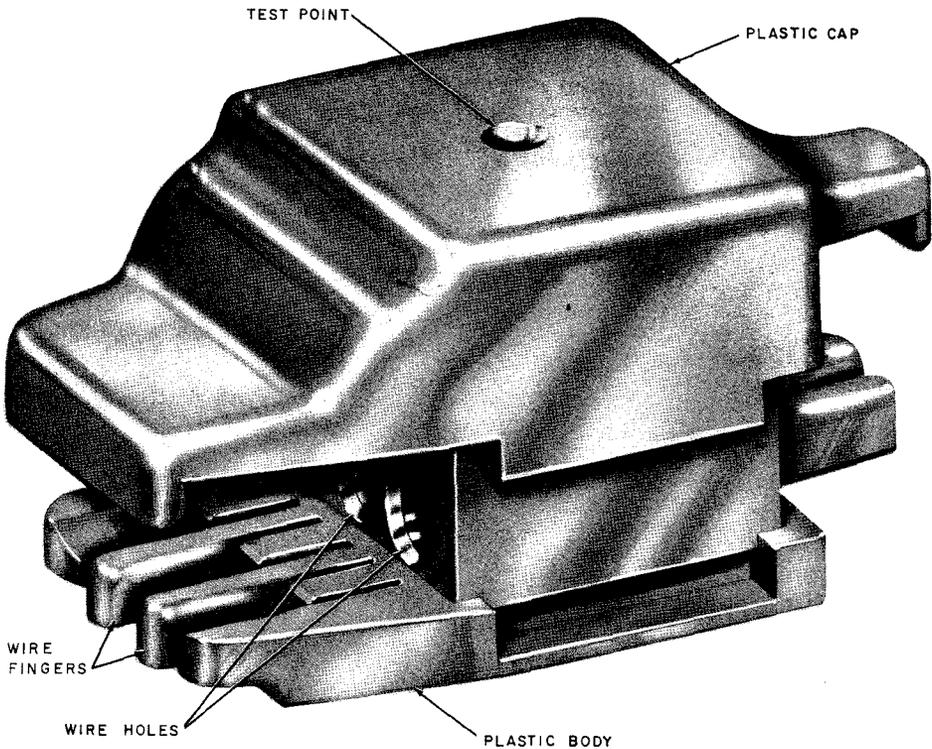

Fig. 1—700-Type Connector
2.01 All 700-, 701-, and 702-type connectors (Fig. 1) consist of the following: